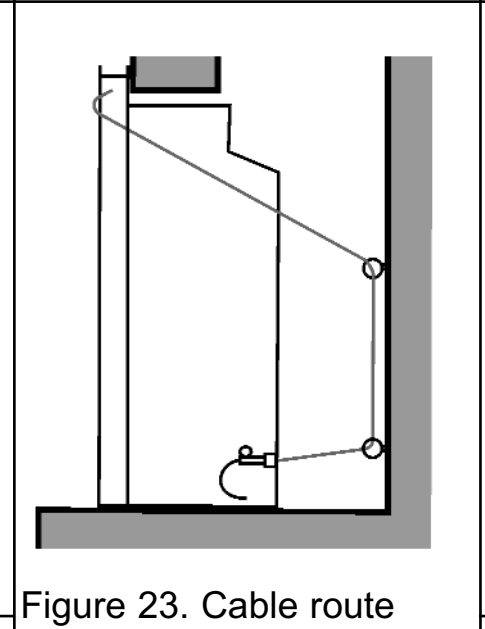

Figure 23. Cable route
6. Thread the cables through the eyebolts. Return the cables through the holes near the bottom of the hotbox back panel (See figure 23) (**For precast or clay block flue systems return the cables through the slotted holes in the side of the hotbox**).